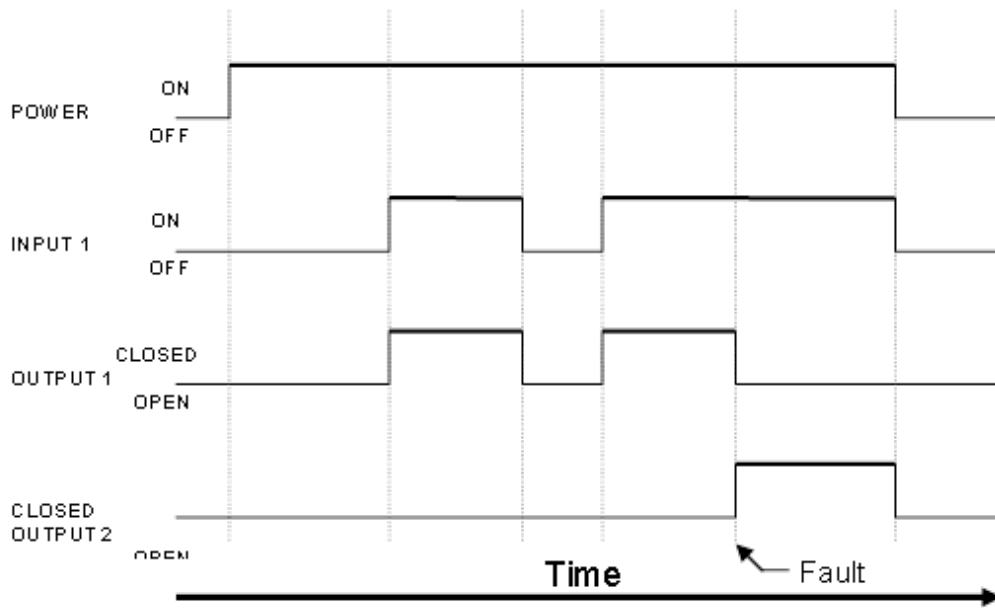

Figure 6 – Close Relay On Event
(2) Outputs
- The Dayton MEC has two (2) discrete Normally Open relay outputs.
- See Figures 6 and 7 for the timing diagram for the outputs when configured for either “Open” or “Close” relay on event. The factory default is “Close” relay on event.